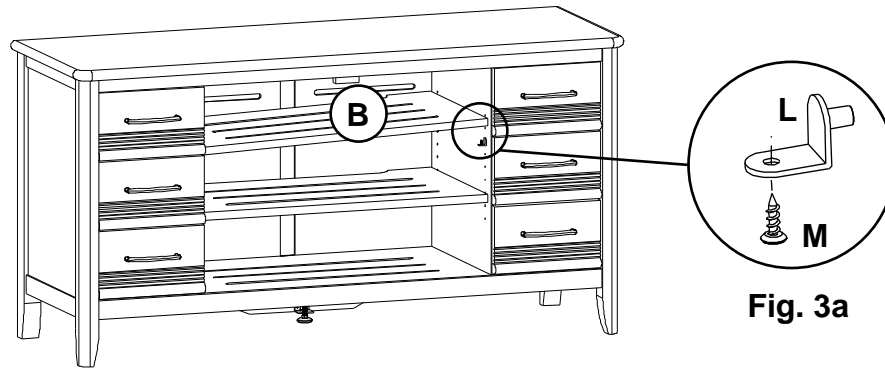

Fig. 3
- To move the Adjustable Shelves (B), remove the #6 x 1/2" Undercut Screws (M) and the Shelves (B). Move the Shelf Brackets (L) to the desired positions, replace the shelf and insert the screws. See Figures 3 and 3a.